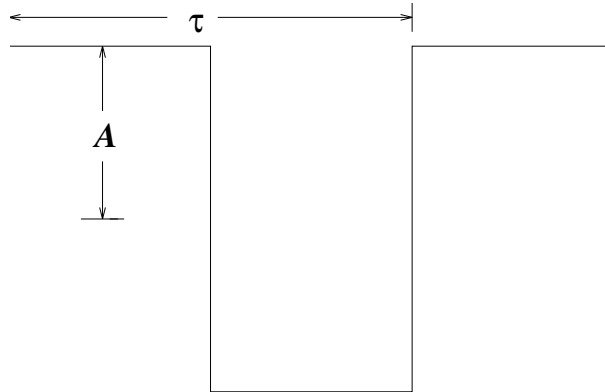

Figure 4.5: A square wave.
Another type of wave that we'll find important is the *square wave*, illustrated in Figure 4.5. Functionally, we can write
**Question 1:** Comparing with Figure 4.5, does the shape vary with the frequency? Illustrate as necessary.